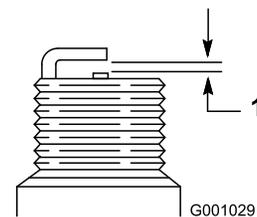

Figure 48
- Set the gap between the electrodes on a new spark plug at 0.030 inch (0.76 mm) (Figure 48).